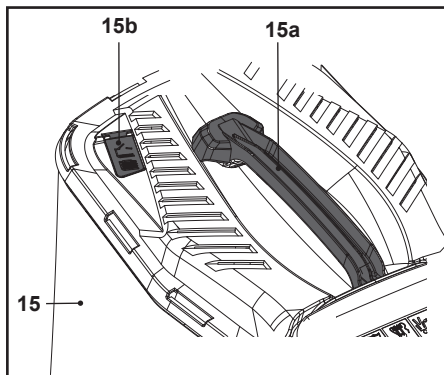

Fig. 12
2. When the hatch (15b) is closed, the grass catcher (15) is full and must be emptied (Fig. 12).